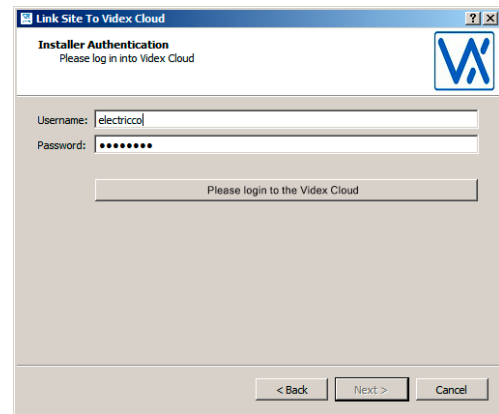

Fig. 33 Login Vindex Cloud
- Enter the same username and password used for <https://www.videx-service.it/> web site then click "login videx cloud" (Fig. 33).